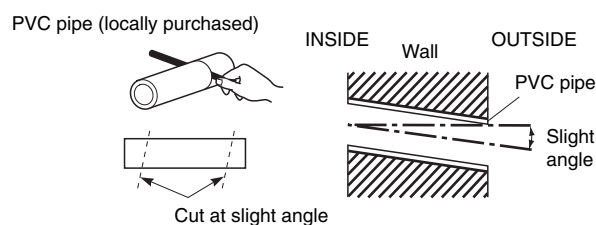

Fig. 3-143
- (9) Measure the thickness of the wall from the inside to the outside and cut PVC pipe at a slight angle to fit. Insert the PVC pipe in the wall. (Fig. 3-143)